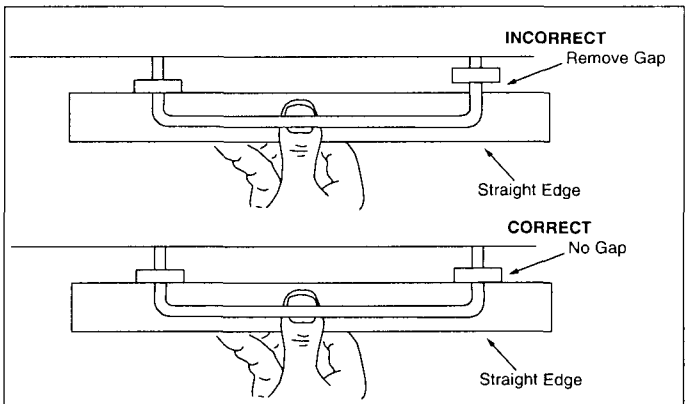

Figure 5. Aligning Drive Components
3. Place a straightedge on the outside surface of the pivot arm and motor arm (Figure 5). There should be **no gap** between the motor arm and the straightedge.
6. Place the straightedge on the outer surface of the pivot arm and motor arm. Position the motor arm until no gap exists as shown in Figure 5.